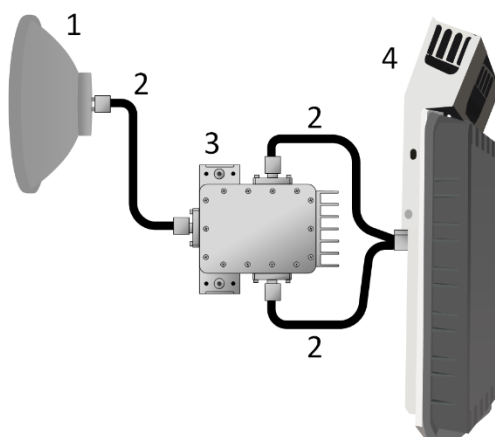

Figure 5-31 1+1 HSB for U4GHz
Please note that mentioned connection schemes are applicable to all frequency bands except for the 4(U) GHz which doesn't need the tower mountable OMT and can be directly connected to antenna(s) with a pair of coaxial cables (for more information, refer to Attaching FODU to the antenna). In the Figure 5-31 1+1 HSB for U4GHz Integra-X U4 GHz FODU 1+1 HSB connection to antenna is shown. It includes an antenna (1), a GRANTE coupler (3), waveguides (2), and a single FODU (4)